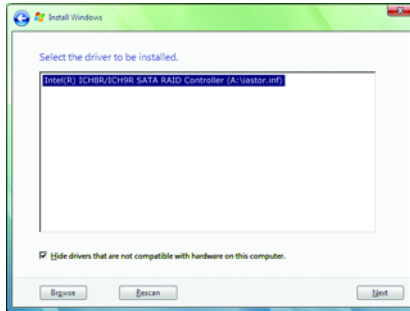

Figure 8
When a screen as shown in Figure 8 appears, select **Intel(R) ICH8R/ICH9R SATA RAID Controller** (Note) and press **Next**.
(Note) The item displayed in Figure 8 will be shown as **Intel(R) ICH9 SATA AHCI Controller** when the SATA controllers are set to AHCI mode.